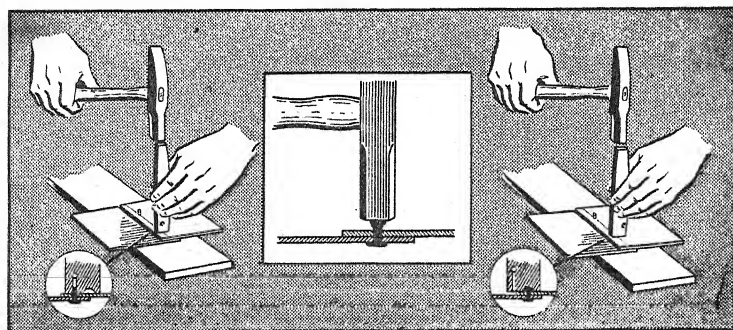

Figure 310. — Drawing, upsetting, and heading rivets.
rivet set over the rivet and striking the head of the set with a riveting hammer. Use a light-weight riveting hammer for small rivets and progressively heavier hammers for heavier rivets (figure 310).
4. When the sheets are properly drawn together, remove the set and strike the end of the rivet a blow with the riveting hammer to upset the end of the rivet. Don't strike too hard a blow, as it will distort the metal around the hole (figure 310).
5. Place the dished portion (the heading die) of the rivet set over the rivet and form the head. One or two blows struck on the head of the set with the hammer is sufficient to form the head (figure 310).